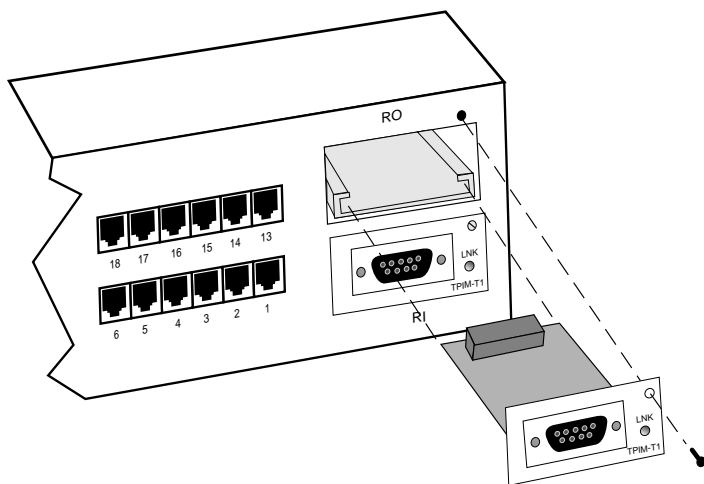

Figure 3-12. Installing a TPIM
3. Slide the new TPIM into place as shown in Figure 3-12.